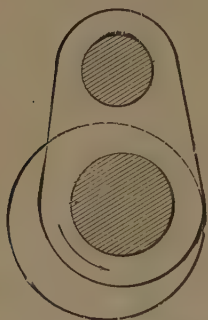

Fig. 194. One Eccentric, Lapped Valve, no rocker.
A. As shown in Fig. 194, in which the eccentric is more than 90° in advance of the crank pin, in the direction in which the axle is to turn; the excess being enough to enable the steam edge of the valve to be in line with the outside edge of the end port, when the piston is at beginning of stroke.